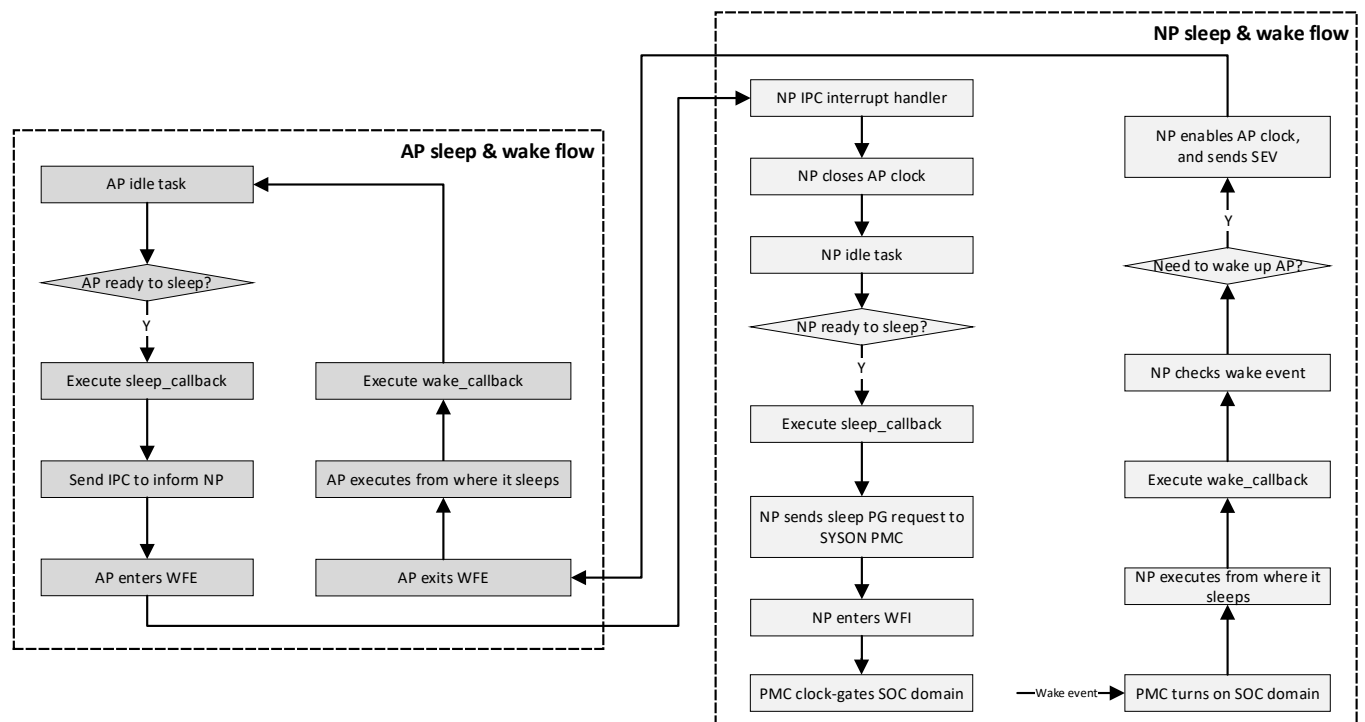

Figure 20-4 Sleep and wake flow of CG
- For sleep CG, if a wakeup event occurs, PMC will turn on the SOC domain's clock. Since KM0 is not power-gated in sleep CG, it will wake up and continue to execute from where it sleeps, and then check wakeup reasons to see if need to resume KM4. Figure 20-4 shows the sleep and wake flow of CG.